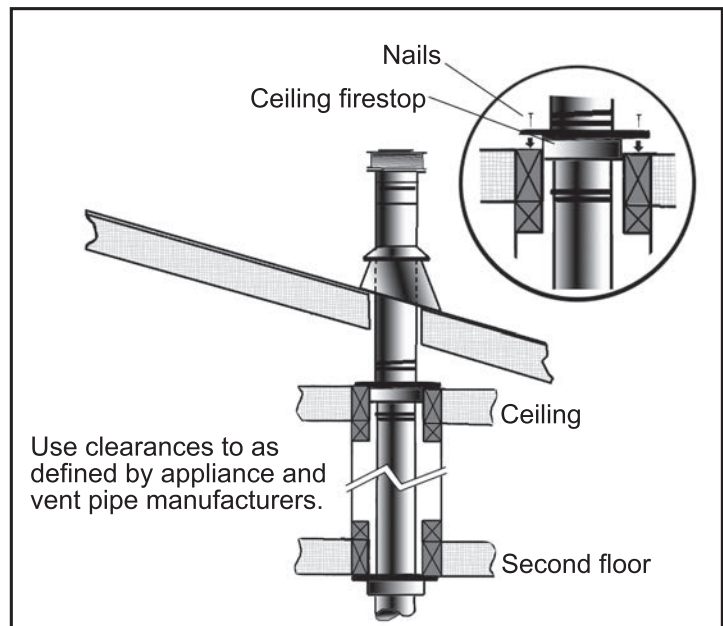

**Figure 28: Use of Wall Straps.**
- (1) If an offset is necessary in the attic to avoid obstructions, it is important to support the vent pipe every **3' (914 mm)**, to avoid excessive stress on the elbows, and possible separation. Wall straps are available for this purpose (see Figure 28).
- (2) When ever possible, use 45° degree elbows instead of 90° degree elbows. The 45° degree elbow offers less restriction to the flow of flue gases and intake air.